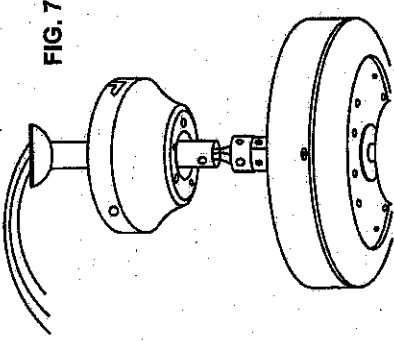

FIG. 7
- Put the drop rod through the flared end of the canopy and pass the electrical supply leads from the top of the motor through the drop rod until they exit at the top of the ball joint. Always ensure the rod passes through the canopy before the rod is connected to the fan. If an extension rod longer than 30 inches is to be used, the cables will need to be extended in an appropriate way. (SEE FIG. 7)
- Be Careful to collect all wires into switch housing of ceiling fan, then install the light kit to switch housing, replace three screws to tight it. Ensure the light kit is screw firmly. (See Fig 7)/page 6